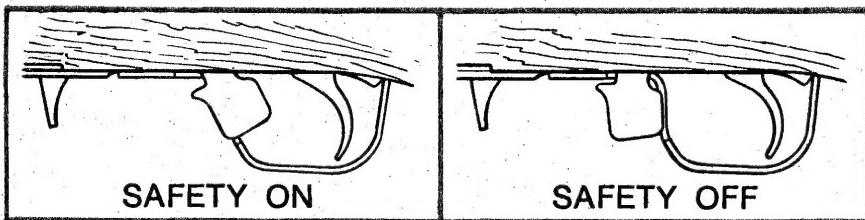

Figure 4. Safety Mechanism
a. SAFETY MECHANISM — The manual safety mechanism is located forward of the trigger as illustrated in Figure 4. The safety can be moved to its "ON" position only when the hammer is cocked. When the safety is "ON", it blocks both the hammer and sear. Although the safety mechanism of the AC-556 and AC-556K selective fire rifles is correctly designed and fitted, the user should never depend on it, or any other mechanical device to justify careless handling or pointing the rifle in an unsafe direction.
4. When you are ready to fire the rifle, move the safety to the "OFF" position (forward) (See Figure 4).
6. To unload the rifle, place the safety in its "ON" position (see Figure 4), remove the magazine and pull the slide handle all the way to the rear, extracting and ejecting the cartridge in the chamber.
5. When you are ready to fire the rifle, move the safety to the "OFF" position (forward) (see Figure 4).
8. Place the Safety in its "ON" position (See Figure 4.)